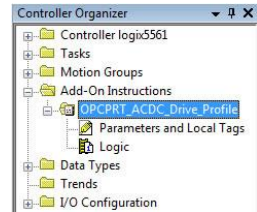

Figure 45: AC/DC Drive Profile Add-On Instruction
- 2) Right click on “Add-On Instructions” in the controller organizer view and select “Import Add-On Instruction”. Browse and import the AC/DC drive profile add-on instruction. Refer to Figure 45.